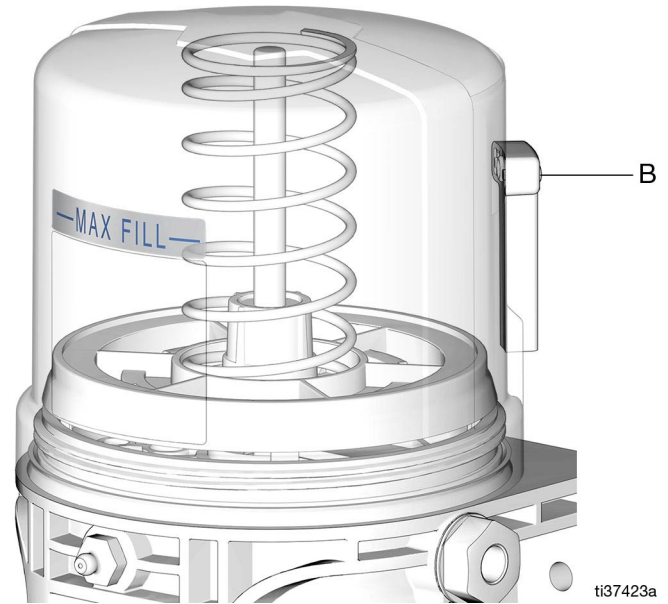

FIG. 20
3. Fill the reservoir with NLGI grease to the MAX line (FIG. 20).
**NOTE:** The venting tube (B) should not be used as an overfill indicator (FIG. 20).